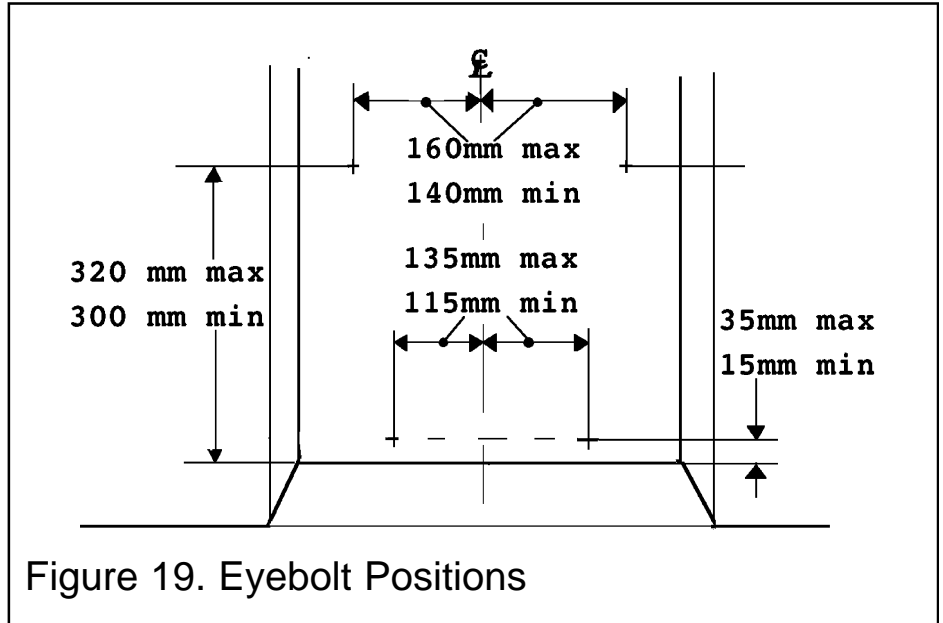

Figure 19. Eyebolt Positions
2. Drill four holes in the rear wall of the fireplace for the eyebolt plugs. The holes should be drilled within the range of positions shown in figure 19 using a no.12 masonry drill. The holes